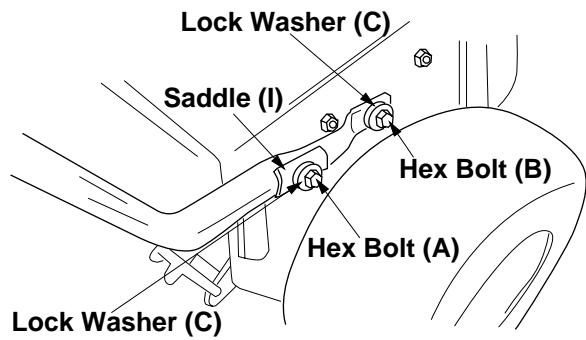

Figure 4
7. Attach with hex bolts lock washers and saddles. See Figure 4.